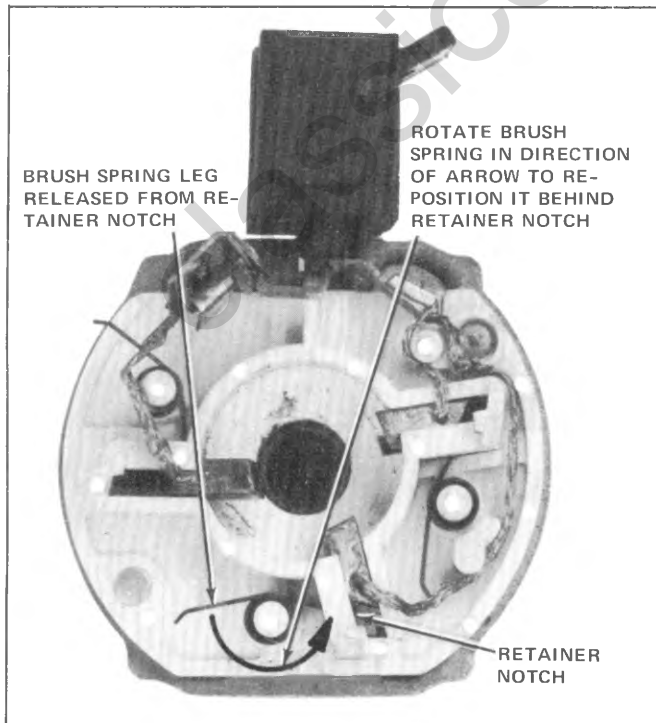

Fig. 8-13--Releasing Brush Spring Tension
1. Release brush spring tension figure 8-13 and slide brushes back in their respective brush holders.